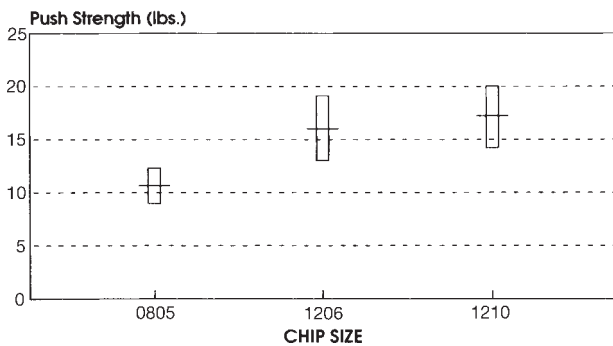

Figure 7. Lateral Push Strength with 30% to 50% Fillet
Results of the push test showed all test cells to greatly exceed the military requirement of five (5) lbs. regardless of the attachment method or substrate (See Figure 7).